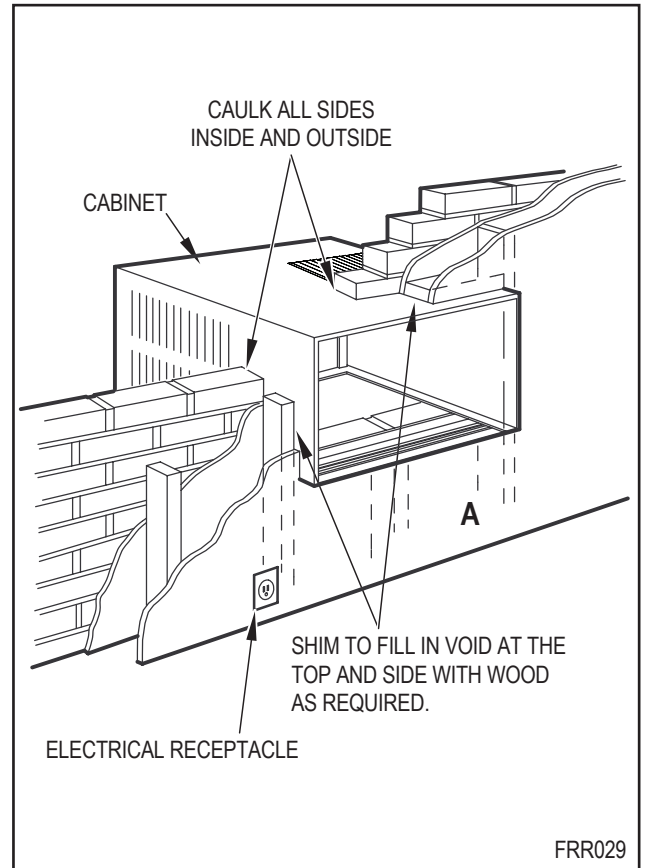

Figure C.5.7
STEP 6. OPENING CONSTRUCTION – Depending upon size of unit to be installed, lay out the hole dimensions per Table 3. Cut and frame-in the opening to finished dimensions. If the wall construction is a typical frame, or 2" x 4" studding with brick or stone veneers, locate the opening next to one of the studs. For masonry, concrete, or cinder block walls, locate an opening for your convenience (see Figures C.5.7, C.5.8, C.5.9).